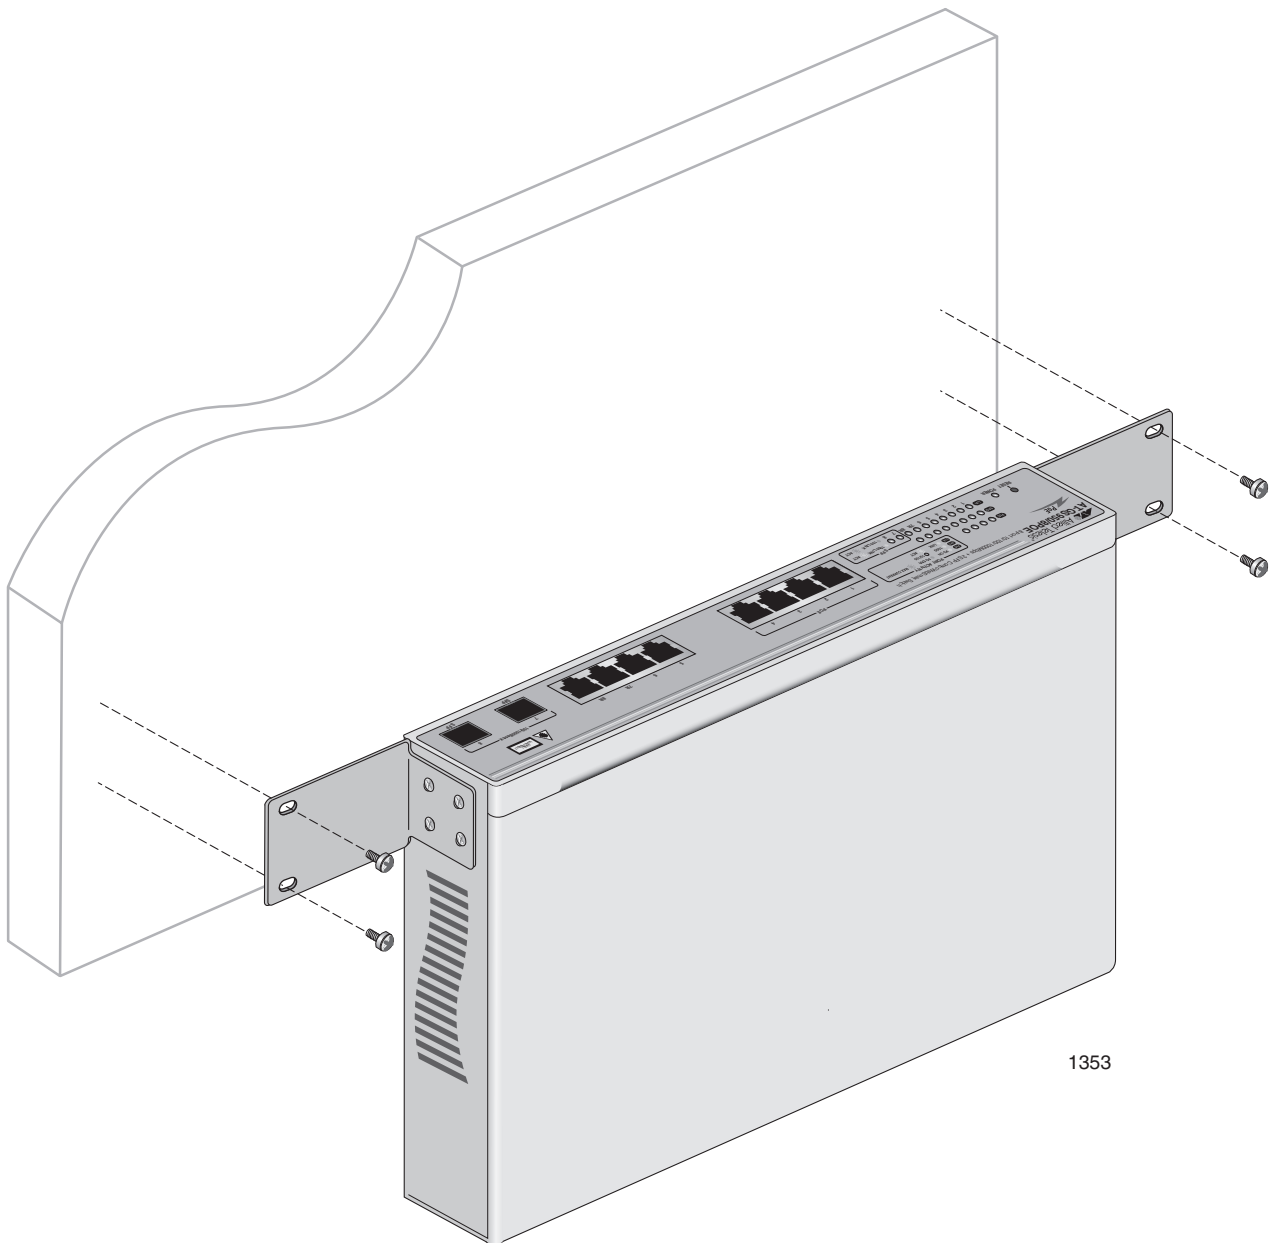

Figure 11. Attaching the switch to the wall
5. Place the switch on the wall. Then mount the switch using the four #10-32 Phillips screws which are shipped with the product as shown in Figure 11.